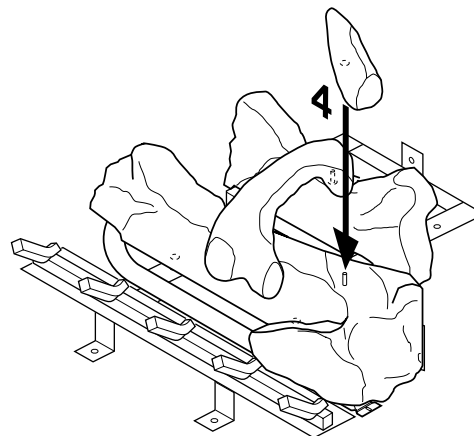

Figure 43 - Installing Log No. 4
4. Place log #4 (right log) on the pin on the right side of front log as shown in Figure 43.